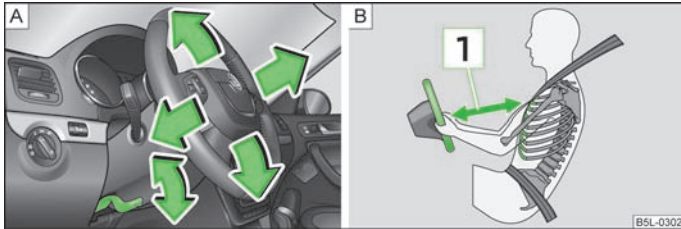

Fig. 93 Adjustable steering wheel: Lever next to the steering column/safe distance to the steering wheel
- Pull the lever below the steering wheel down » Fig. 93 - A.